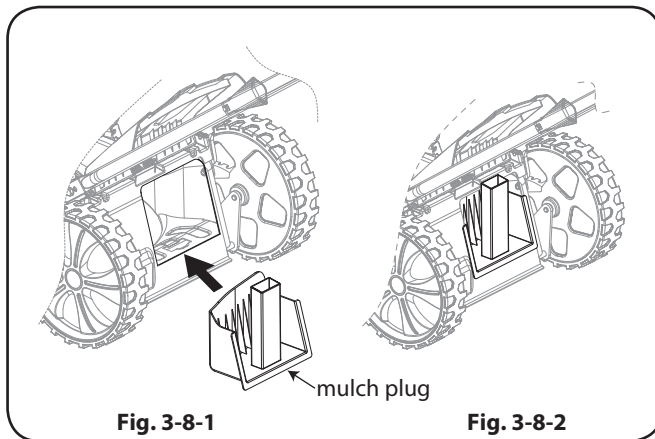

Figure 3-8
3. Guide the mulch plug in and seat down on the rear ramp. See Figure 3-8.